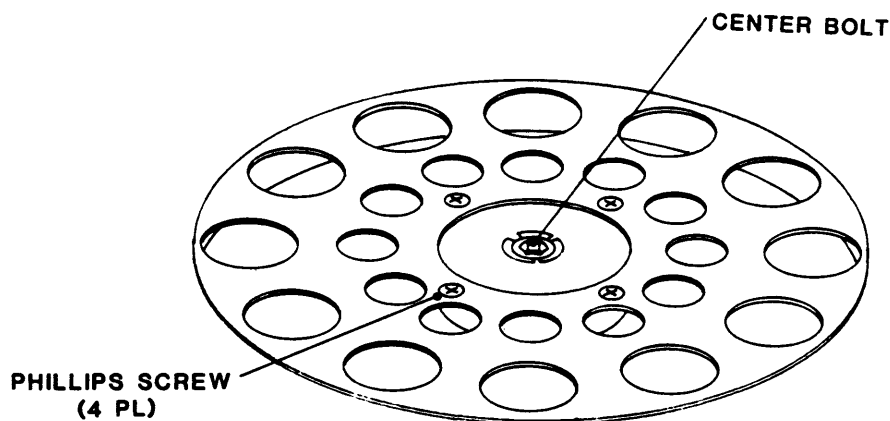

Figure 4-8 Vacuum Hub Assembly
4.3.7 VACUUM HUB ASSEMBLY (Fig. 4-8)